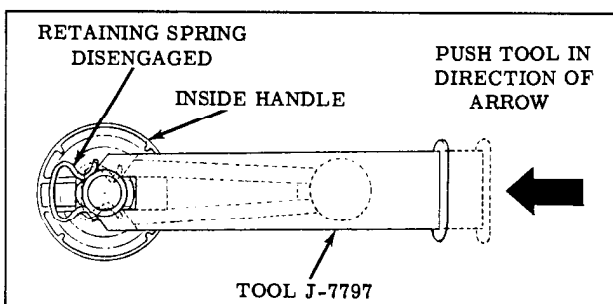

Fig. 15-17 Removing Inside Handle Retaining Spring
2. Push handle retaining spring out of engagement and remove handle and bearing plate from door. (Fig. 15-17)